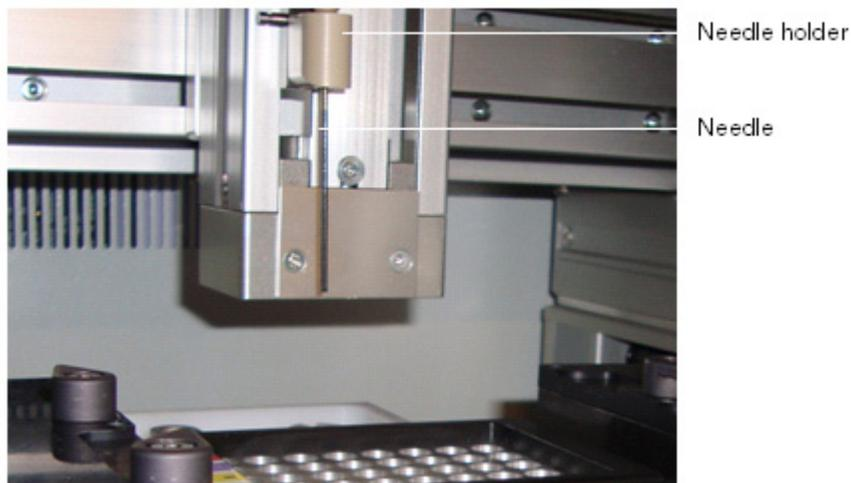

Figure 24 Needle and needle holder.
1. Clean the needle and bottom of the needle holder with a Kimwipe® (see Figure 24). If needed, first moisten the Kimwipe with deionized water or use a pre-moistened alcohol pad.